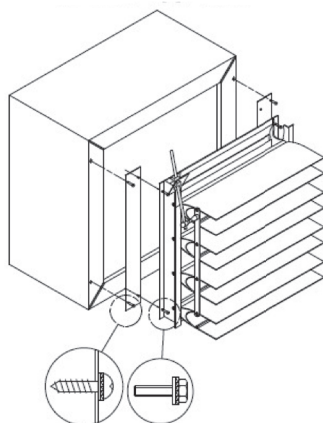

Figure 4. Airflow Optimizer Assembly
2. Position airflow optimizer assembly (see **Figure 4**) on face of heater and align existing mounting holes.